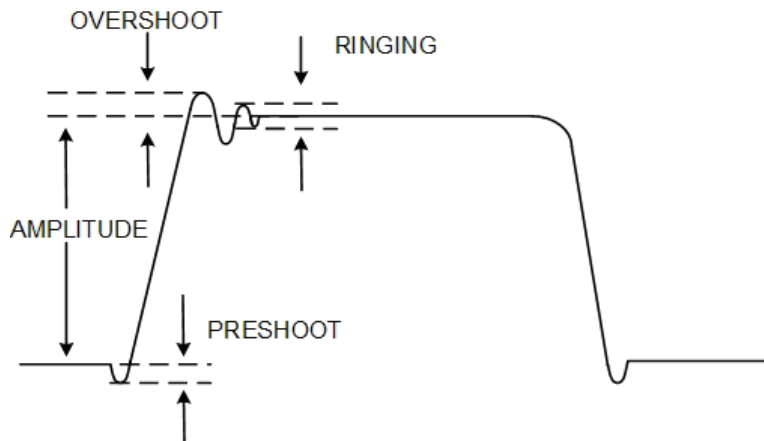

Figure 4. Output pulse characteristics.
(1) Set pulse width to **SQUARE WAVE**.
(2) Measure rise and falltime, using standard measurement technique. Rise and falltime, as indicated on oscilloscope, will be less than 3.5 ns.
(3) Measure preshoot, overshoot, and ringing (fig. 4), using standard measurement technique. If preshoot, overshoot and ringing, are not less than 5 percent of pulse amplitude, perform **b** (1) below.